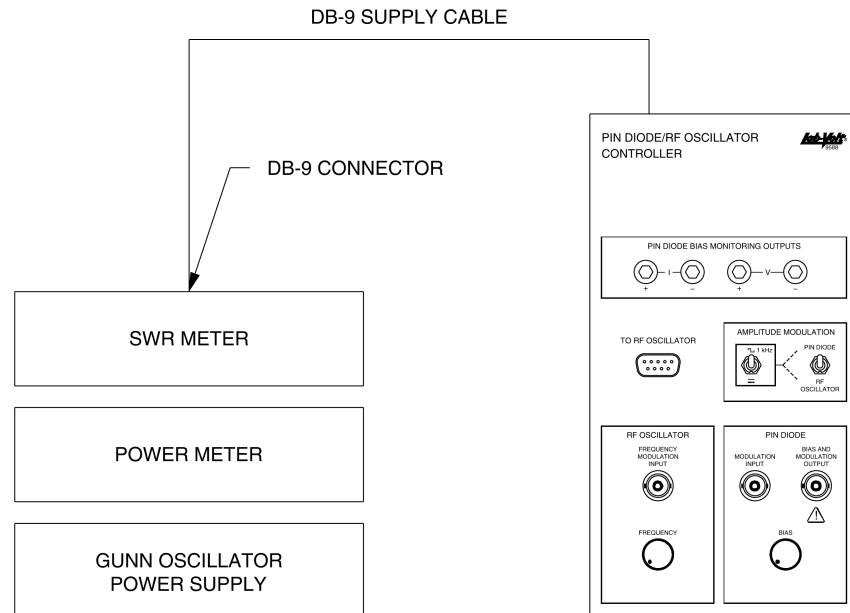

Figure 2-5. Module arrangement.
- 1. Make sure that all power switches are in the O (off) position. Set up the modules as shown in Figure 2-5.